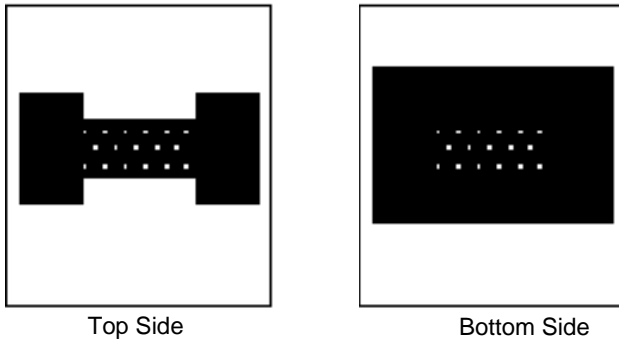
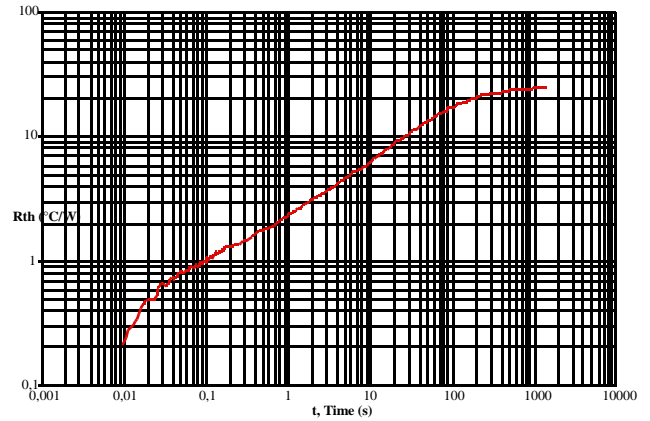

Figure 21. PCB Test Layout
Figure 22. 33886 Thermal Response
**Example** Characterization on a double-sided PCB: bottom side area of copper is  $7.8 \text{ cm}^2$ ; top surface is  $2.7 \text{ cm}^2$  (see Figure 21); grid array of 24 vias 0.3 mm in diameter.
Figure 22 shows the thermal response with the device soldered on to the test PCB described in Figure 21.